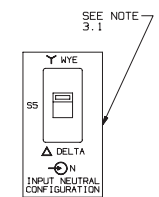

FIGURE 5
- 3.1 MAKE SURE THAT INPUT CONFIGURATION SWITCH, LOCATED IN THE WIRING COMPARTMENT AT THE BACK OF THE UNIT, IS SET TO POSITION WYE (4-WIRE) INPUT, OR TO DELTA (3-WIRE) INPUT, AS YOUR INPUT DICTATES (SEE FIGURE 5 AND REFER TO THE LEFT SIDE VIEW OF DRAWING 110718268). THE UNIT IS SHIPPED WITH THE SWITCH SET FOR WYE INPUT.